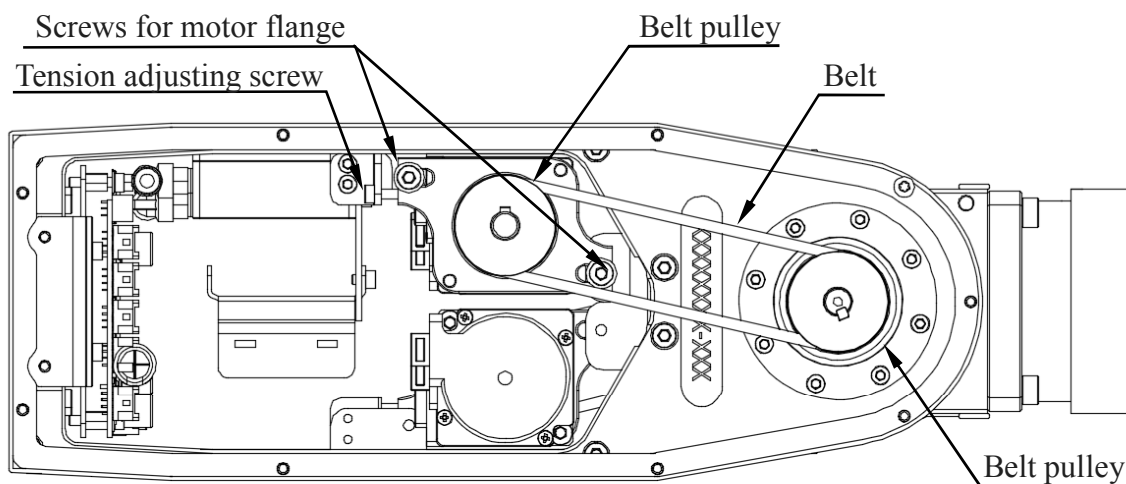

Figure 5-7 J6-axis structure diagram
- Figure 5-7 shows the structure of J6-axis.